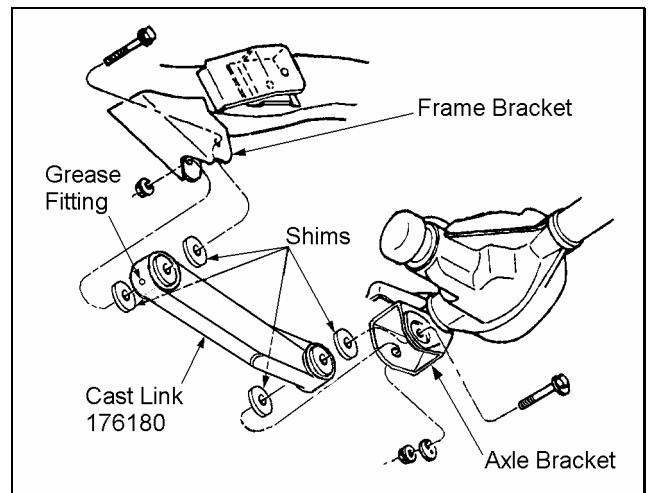

Figure 6
- 5) ☐ Install new Rancho cast link 176180, along with four shims from kit 860070, to the frame and axle brackets as shown in figure 6. Use original hardware but do not tighten.